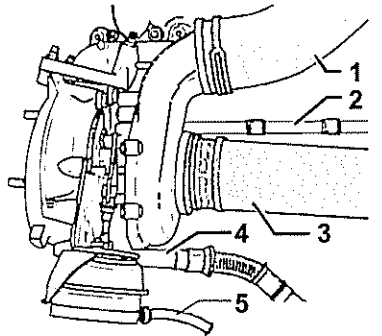

Fig 4 Turbocharger connections
11.5 Remove charge air hose (see Fig 4 (1)) and connecting pipe (3) from turbocharger.